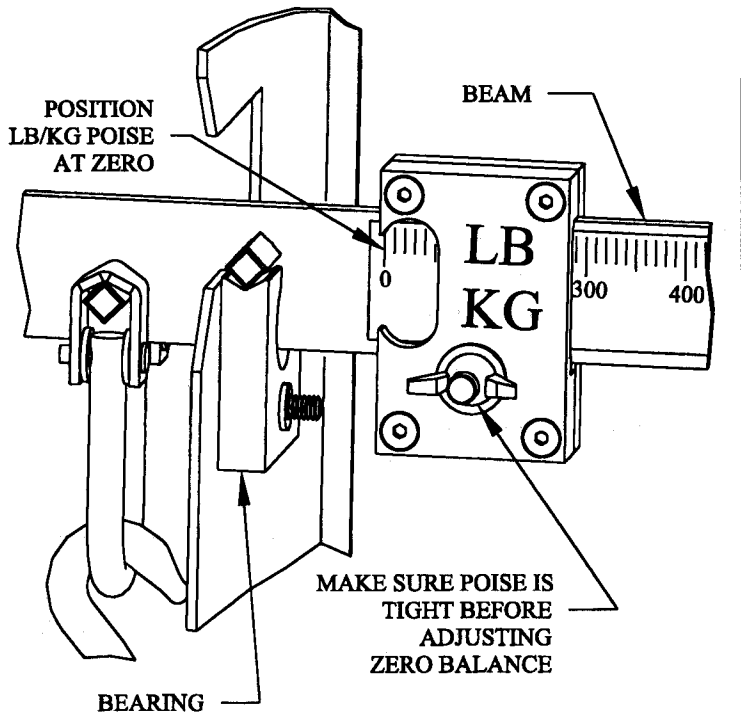
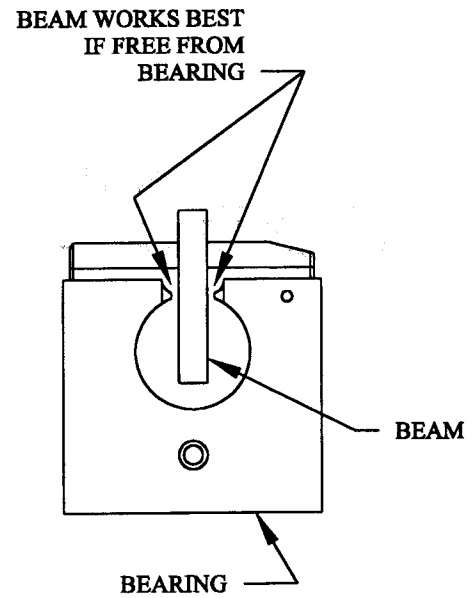
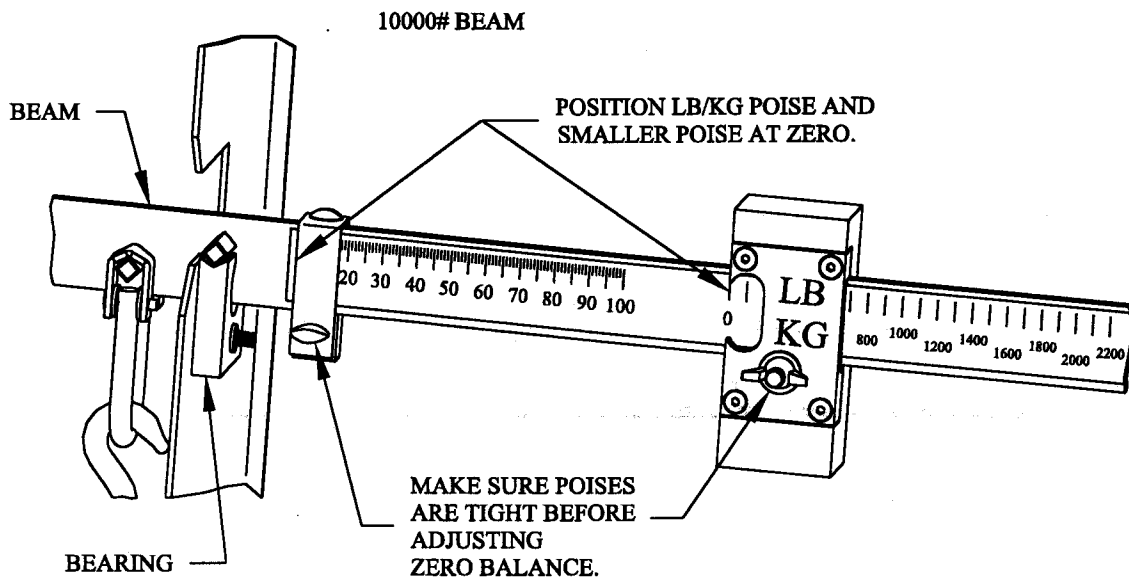

FIG. 3A
FIG. 3B
FIG 3C
STEP 3. Move the LB/KG poise weight on the beam to zero. Tighten securely. See Fig. 3A. There is a tendency to move the beam back against the bearing when the poise is moved. Be certain the beam is centered after each time the poise is moved. See Fig. 3B. The 10000# & 20000# beams have two poises and each must be set to zero. A 10000# beam is shown in Fig. 3C.